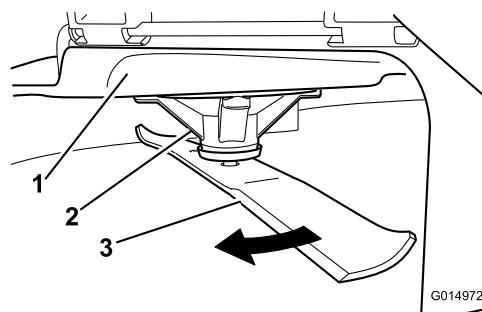

Figure 44
2. While wearing thickly padded gloves, or other adequate hand protection, slowly rotate the blade to be measured into a position that allows you to effectively measure the distance between the cutting edge and the level surface that the machine is on (Figure 44).